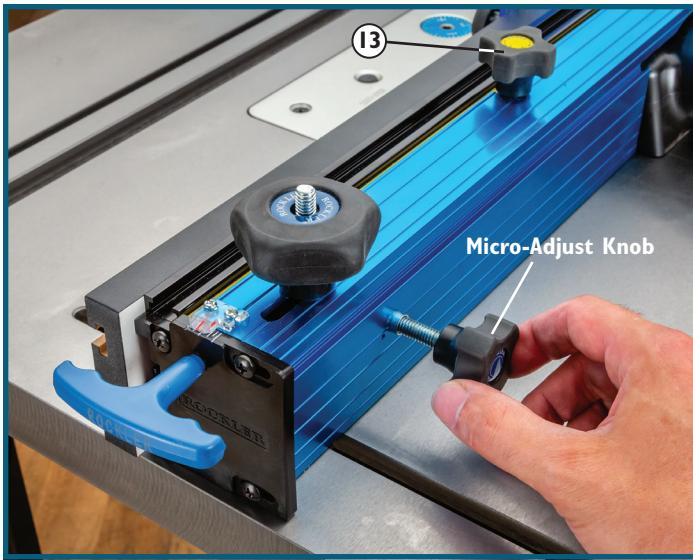

Fig. 1
1. Loosen the Fence-Locking Knob (13) on the top of the fence. **Fig. 1.**